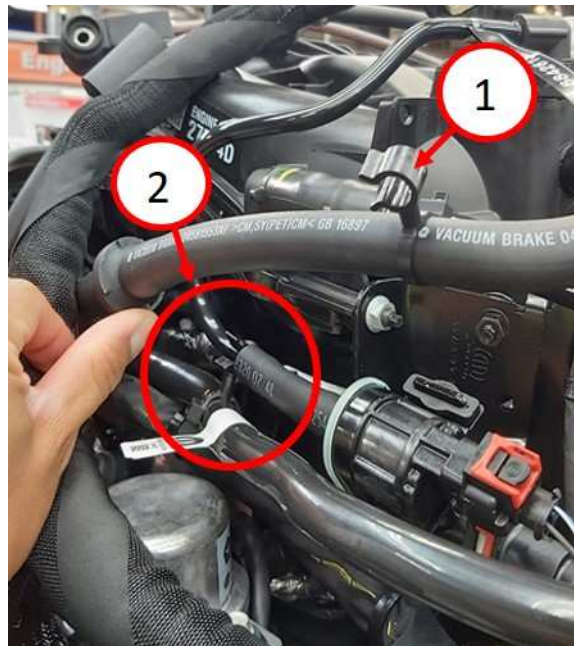

Fig. 3
3. Remove clip from brake boost tube (Fig. 3) .